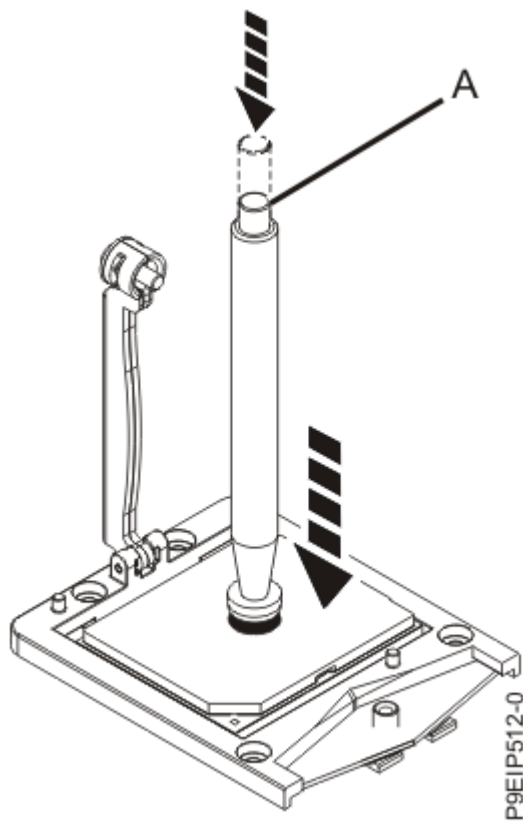

Figure 40. Lowering the removal tool onto the system processor module
8. Lower the vacuum pen tool onto the system processor module to install. Fully press the top of the pen **(A)** and hold the pen in the center of the system processor module as shown in Figure 40 on page 44. Release the top of the pen to fasten the pen onto the system processor module.